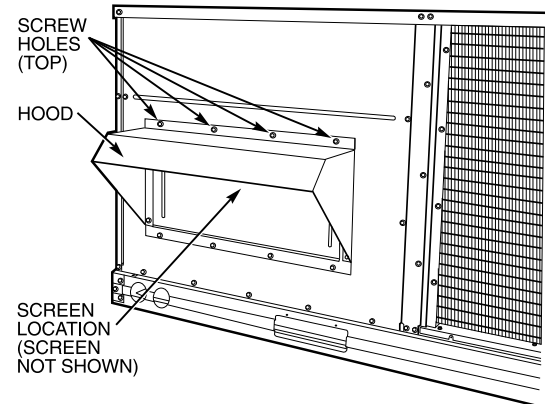
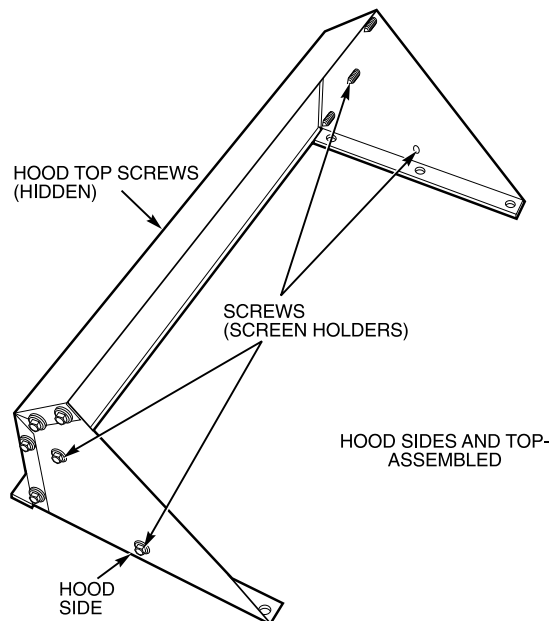

Fig. 15 — Outdoor-Air Damper with Hood Attached
Fig. 14 — Outdoor-Air Hood Details
5. Place hood on front of evaporator coil access panel. See Fig. 14 for hood details. Secure top of hood with the 4 screws removed in Step 3. See Fig. 15.
7. Align screw holes on hood with screw holes on side of manual outdoor-air damper. See Fig. 14 and 15. Secure hood with 6 screws from Step 6.
9. Remove and save screws currently on sides of hood. Insert screen. Secure screen to hood using the screws. See Fig. 15.